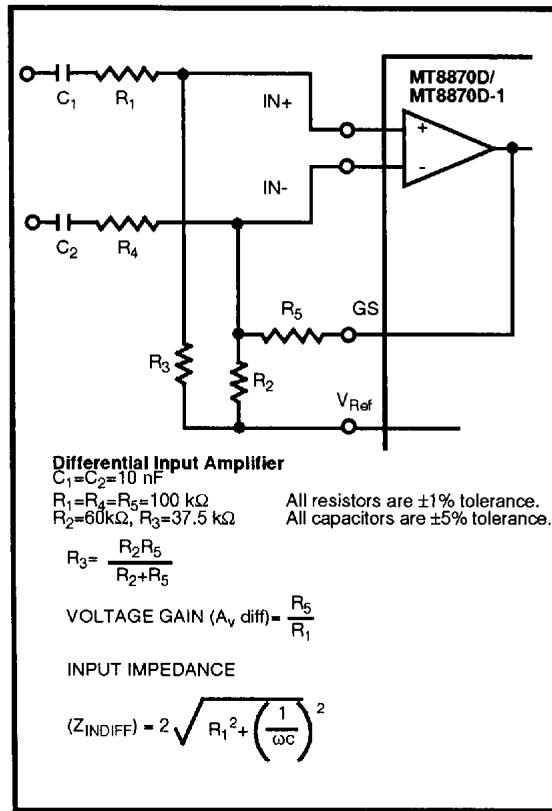

Figure 6 - Differential Input Configuration
The input arrangement of the MT8870D/MT8870D-1 provides a differential-input operational amplifier as well as a bias source ( $V_{Ref}$ ) which is used to bias the inputs at mid-rail. Provision is made for connection of a feedback resistor to the op-amp output (GS) for adjustment of gain. In a single-ended configuration, the input pins are connected as shown in Figure 10 with the op-amp connected for unity gain and  $V_{Ref}$  biasing the input at  $1/2V_{DD}$ . Figure 6 shows the differential configuration, which permits the adjustment of gain with the feedback resistor  $R_5$ .